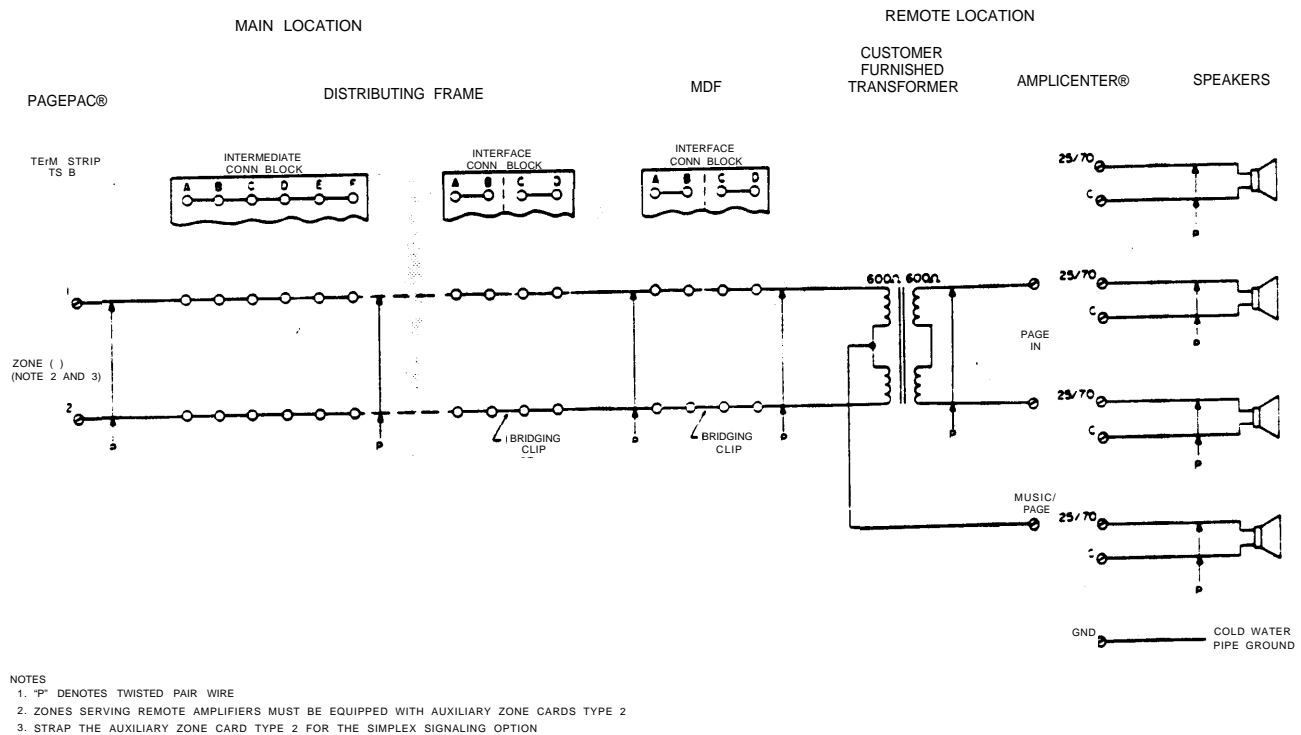

Fig. 26—Off-Premise Amplifier Connections with Simplex Signaling
4.25 If a simplex signaling option is employed, then the telephone line is connected through a telephone company-provided center-tapped 600-ohm matching transformer to the remote amplifier's paging input. Locally-furnished background music is connected to the music input. When the zone is seized, the zone card transmits a simplex ground over the tip and ring conductors to enable the music/page switch. See Fig. 26.